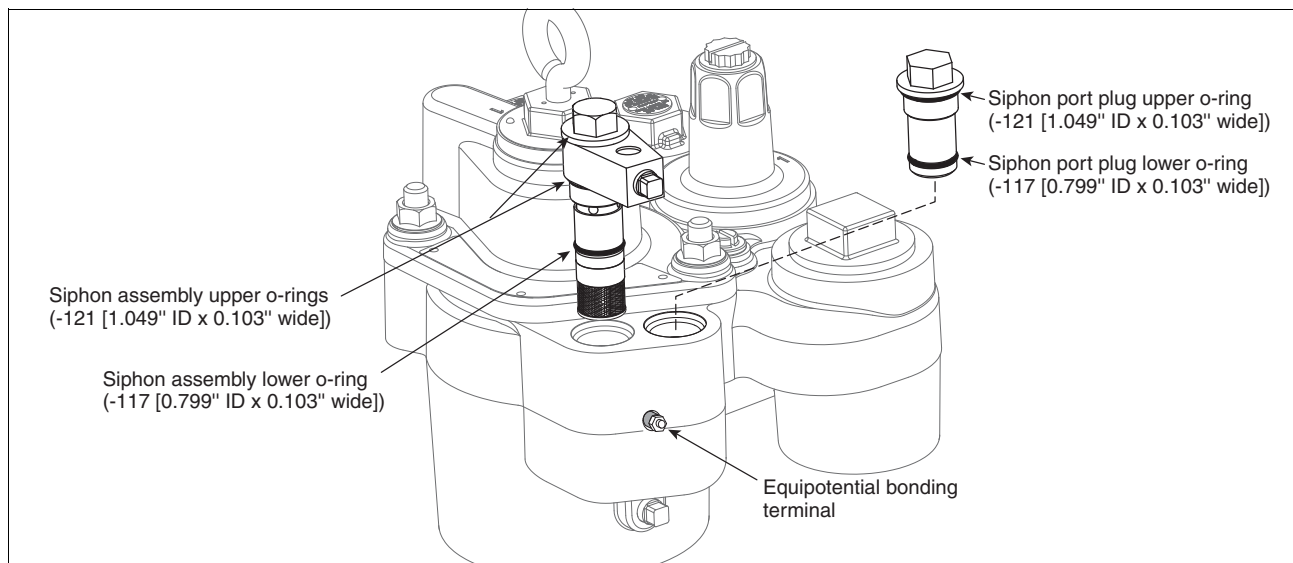

Figure 21. Inserting Siphon Assembly Into Manifold
5. Insert the siphon cartridge into the siphon port (see Figure 21). Swivel the outlet port of the siphon in the desired direction, and then hand tighten the siphon's retaining hex body. Torque the body to 25 - 30 ft-lbs (34 - 41 N•m).